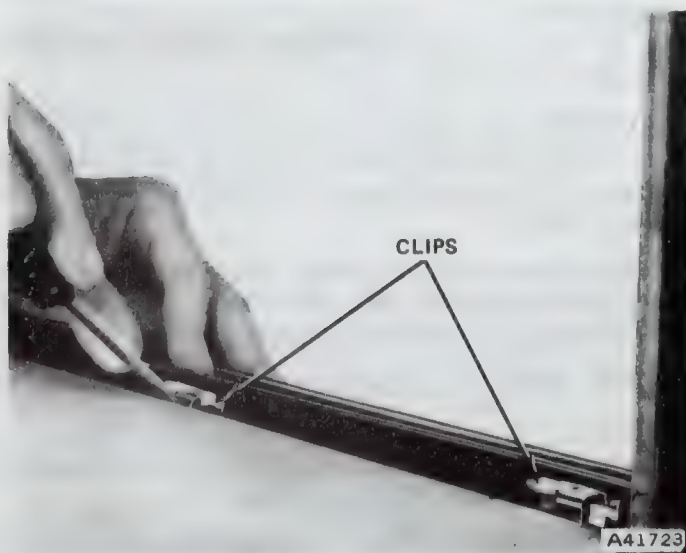

Fig. 3J-2 Clip Removal
(1) Pull weatherstrip from door flange at retaining clips.
(2) Insert screwdriver into retaining slots and slightly distort slots (fig. 3J-2).
(3) Lift and remove weatherstrip.